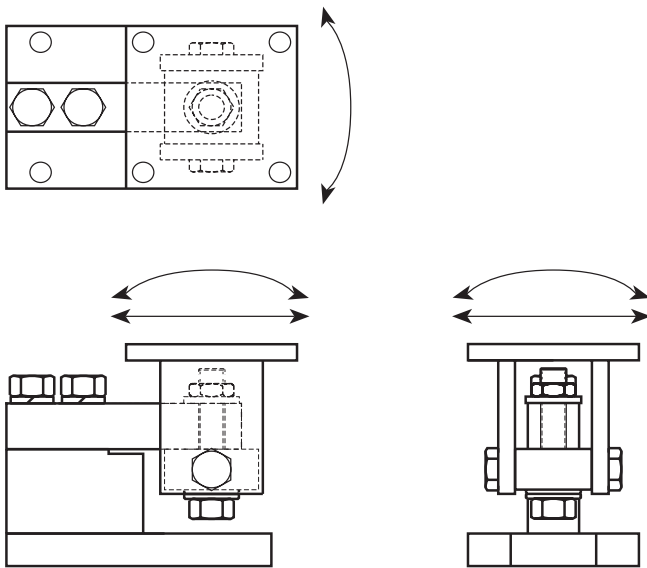

Figure 2-9: SURVIVOR 1855HE
Figure 2-9 illustrates the 1855HE module with arrows indicating allowable movement.
- 3) A chair arrangement is attached to the trunnion block through pivot screws, and the load is applied to the top plate of this chair. This arrangement allows the chair to move in the directions indicated in Figure 2-9.